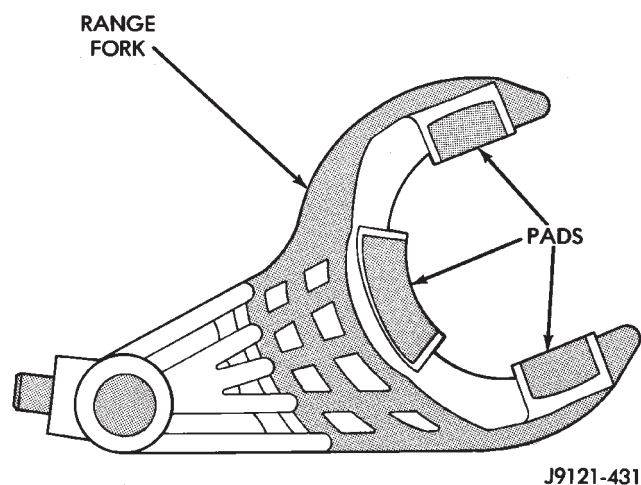

Fig. 42 Range Fork Pads
- (25) Inspect range fork pads (Fig. 42). Be sure pads are secure and in position.